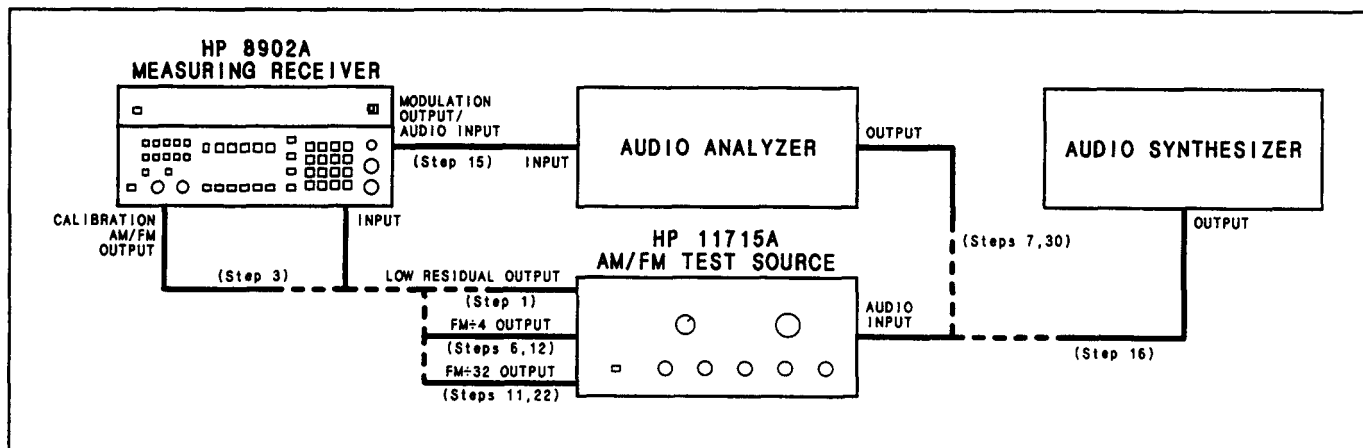

Figure 4-2. FM Performance Test Setup
1. On the AM/FM test source, set the test mode to residual FM. Connect its low-residual (560 MHz) output to the Measuring Receiver's INPUT. (See Figure 4-2.)
3. Connect the Measuring Receiver's CALIBRATE AM/FM OUTPUT to the INPUT. (See Figure 4-2.)
6. On the AM/FM test source, set the test mode to FM. Connect its FM÷4 output to the Measuring Receiver's INPUT. (See Figure 4-2.)
7. Set the audio analyzer's oscillator to 10 kHz at 1V. Connect its output to the audio input of the AM/FM test source. (See Figure 4-2.)
11. Connect the FM÷32 output of the AM/FM test source to the Measuring Receiver's INPUT without disturbing the AM/FM test source's controls. (See Figure 4-2.) Multiply the displayed ratio on the Measuring Receiver by the calibration factor of step 4. (For example, if the display reads 12.52% REL and the calibration factor of step 4 is 100.4%, the result is $12.52 \times 100.4 = 12.57\%$ REL.) The result should be between 12.35 and 12.65% REL.
12. Connect the FM÷4 output of the AM/FM test source to the Measuring Receiver's INPUT. (See Figure 4-2.)
15. Connect the audio analyzer's input to the Measuring Receiver's **MODULATION OUTPUT/AUDIO INPUT**. (See Figure 4-2.) Set the audio analyzer to measure the distortion on the 100 kHz signal at the **MODULATION OUTPUT/AUDIO INPUT** (all audio analyzer filters should be off). The distortion should be 0.1% or less (-60 dB or less).
16. Set the audio synthesizer to 10 kHz at +5 dBm. Connect its output to the audio input of the AM/FM test source. (See Figure 4-2.) Fine adjust the level for a Measuring Receiver display of 100 kHz times the calibration factor of step 5. (For example, if the calibration factor of step 5 is 100.4%, set the level for a display of 100.4 kHz.)
22. Connect the FM÷32 output of the AM/FM test source to the Measuring Receiver's INPUT. (See Figure 4-2.)
30. Set the audio analyzer's oscillator to 10 kHz at 4V. Connect its output to the audio input of the AM/FM test source. (See Figure 4-2.) Fine adjust the oscillator level for a Measuring Receiver display of 10 kHz peak deviation.